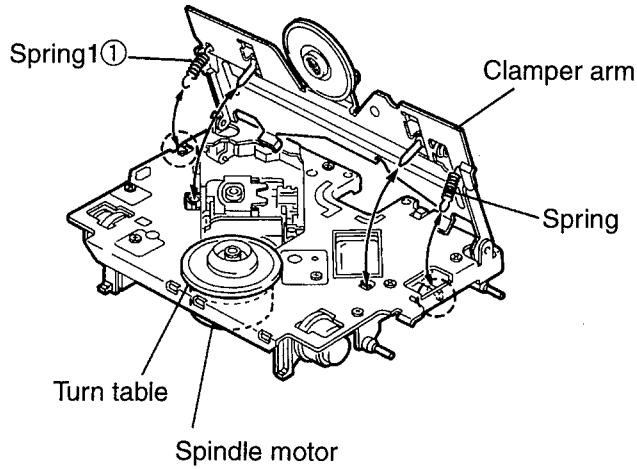

Fig.23
1. After turning back the CD mechanism to initial position, remove the two springs ① and ② on both the right and left sides of the clamber arm (See Fig.23 and Fig.24).